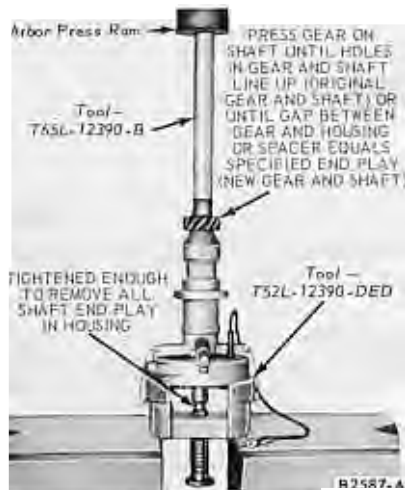

FIG. 9—Gear Installation
12. Place the spacer on the gear end of the shaft. Press the gear on the shaft (Fig. 9). If a new shaft is being installed, drill the shaft with a